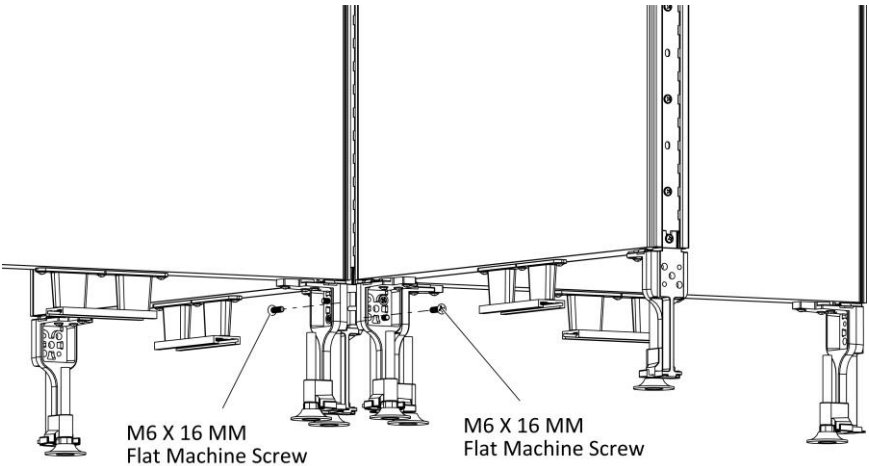

Figure 7
- 11. Secure the base with two M6 X 16MM Flat Machine Screws, (Figure 7).